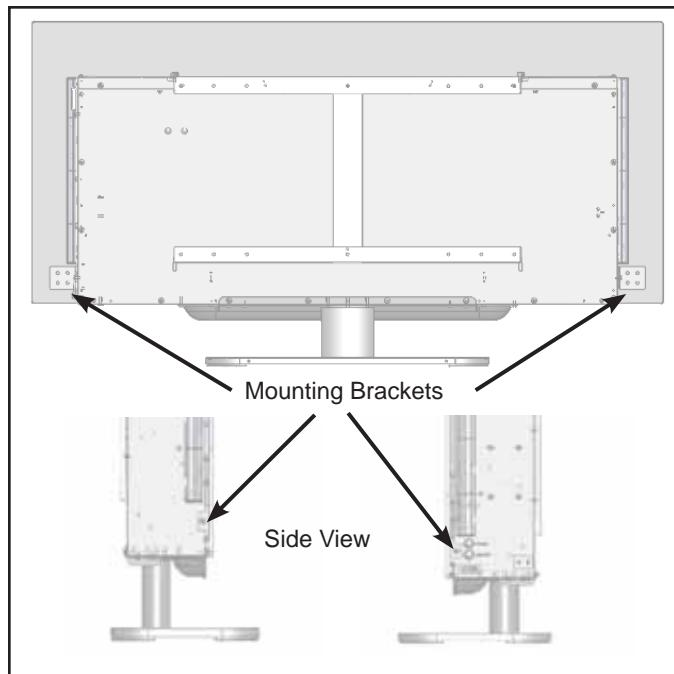

Figure 4 Securing Bottom Glass to Firebox
- Remove the two screws located at the bottom of each side of the firebox. See Figure 4.
- Secure bottom glass to the firebox using two ST4 x 10 screws. See Figure 4.